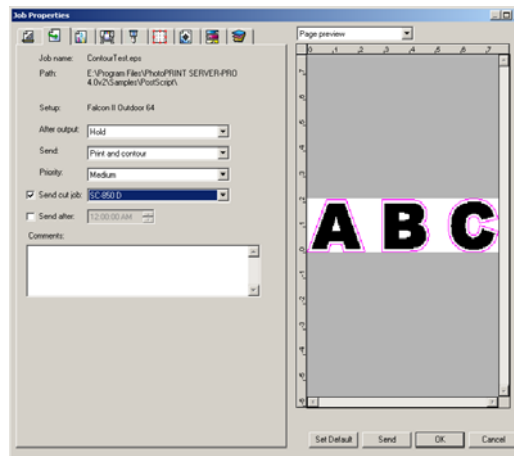

Fig.2
3. Select Workflow Tab to select the Correct Cutter (Fig 2)